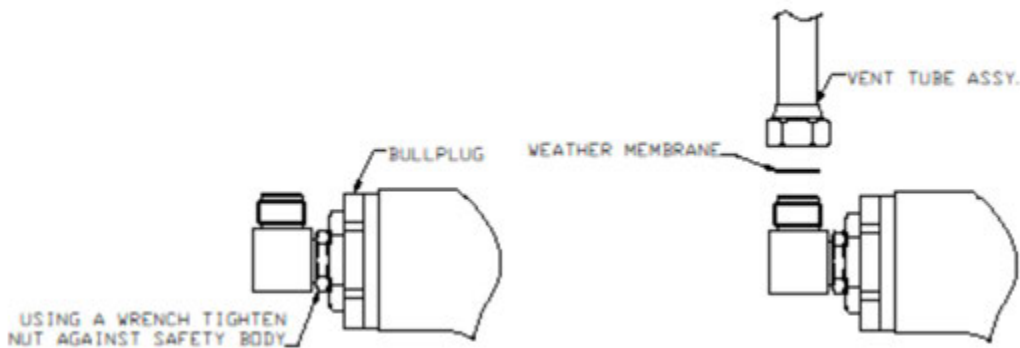

FIGURE 6
8. Screw lock nut to face of 9163 body and torque to 100 FT/LBS. SEE FIGURE 6